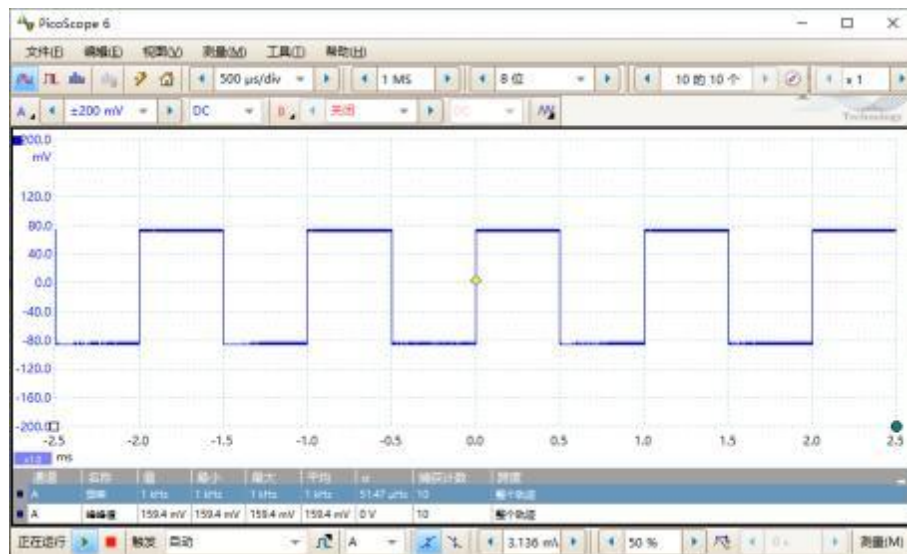

Figure 101. Parameter Diagram of the Signal to Be Measured
3. Turn on the power supply of the function signal generator, set the parameters to "Waveform: Square Wave", "Amplitude: 160 mVpp", and "Frequency: 1 kHz". The waveform diagram of the signal under test is shown in Figure 101: